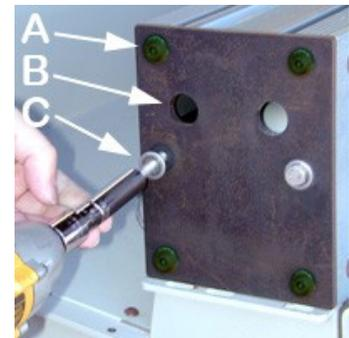

Fig. 10 — Remove the idle end plate.
3. Remove the idle end plate (Fig. 10), by undoing the bolts (C) securing the pulley, then the screws (A) securing the plate.
4. Remove also the black plastic plugs that fit into the sighting holes (B) in the plate. When the end plate is removed, the damaged or worn belt will be visible along with the idle pulley, now lying loosely inside the loop of the belt.
3. Insert and tighten the fasteners in the idle end plate (Fig. 10, A).
4. Tighten the tensioning bolts (Fig. 10, C) to a torque of 20 inch-pounds.